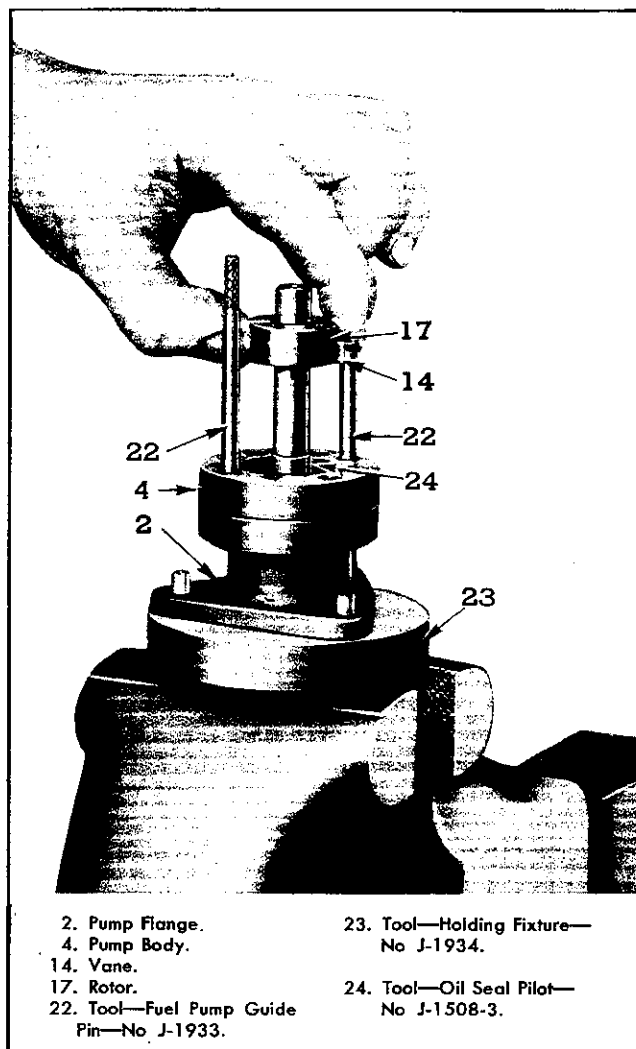

Fig. 42—Installing Rotor Shaft Through Oil Seal in Pump Flange with Tools J-1508-3, J-1933 and J-1934.
2. Support holding fixture, Tool J-1934, vertically in bench vise, set pump flange on three pins of fixture and place two guide pins, Tool J-1933, in the dowel pin holes as shown in Fig. 42.